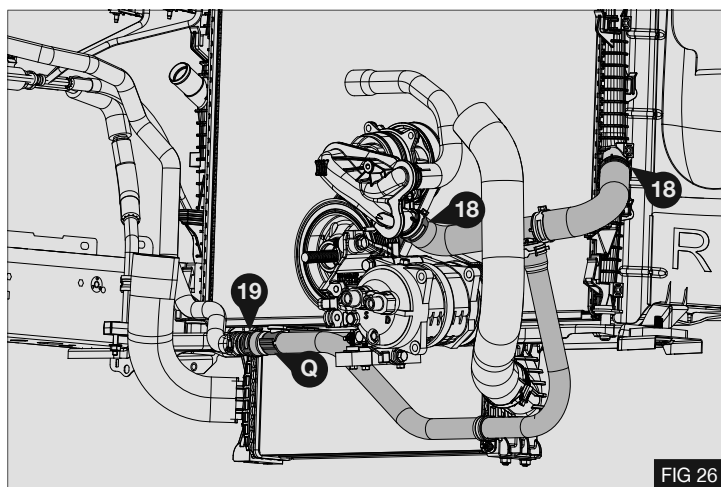

FIG 26
3. Fit the hose assembly to the vehicle and secure to coolant outlets using hose clamps (18), (19). Fit the hose into the original support (Q). - Fig 26